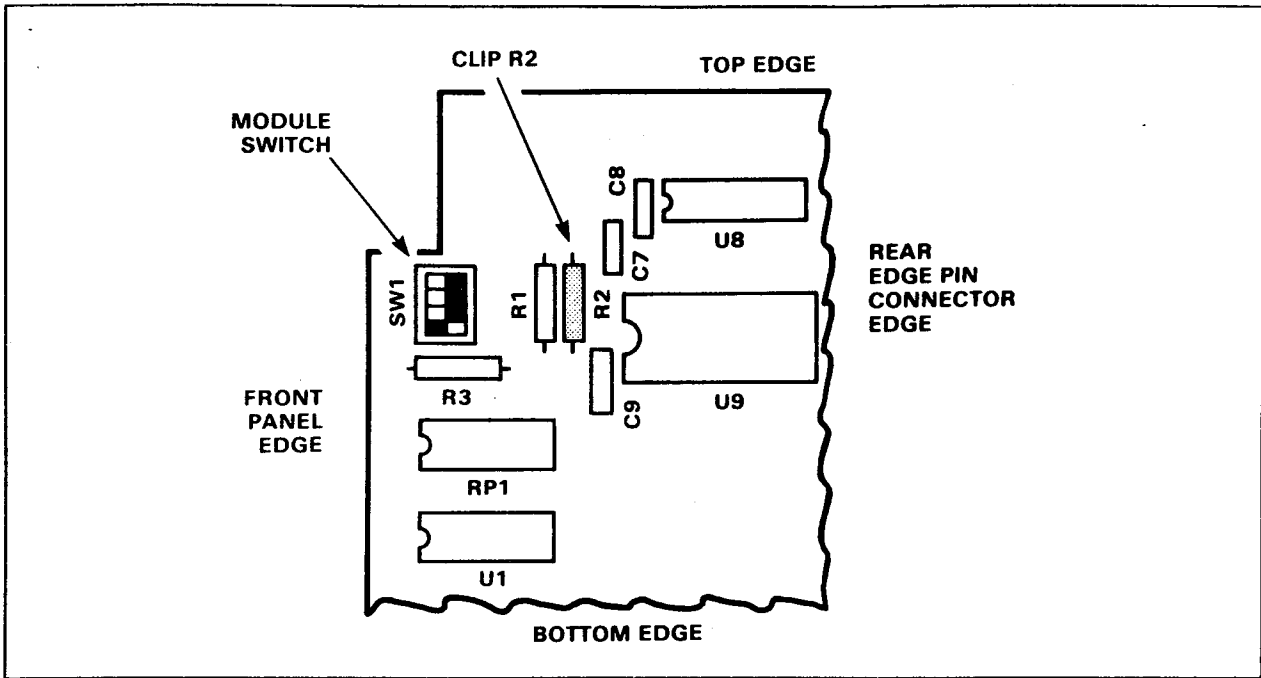

Figure 3-38. Disabling the On-line Programming Function (PC-1100)
5. Refer to Figure 3-38 or 3-39 and locate the on-line programming resistor (R2 in the PC-1100 or R70 in the PC-1200).